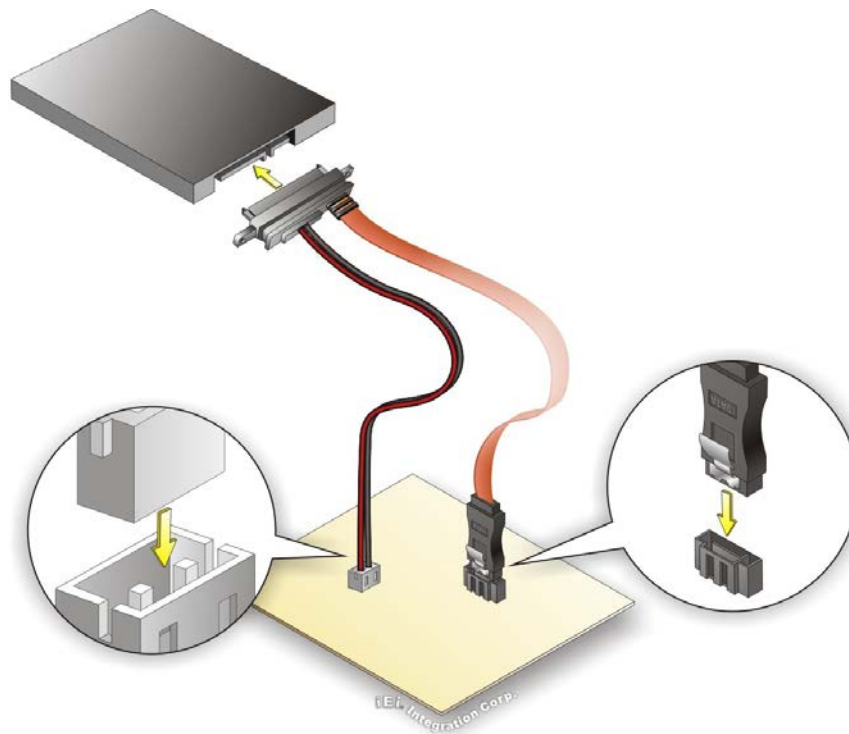

Figure 4-6: SATA Drive Cable Connection
Step 2: Insert the cable connector. Insert the cable connector into the on-board SATA drive connector and the SATA power connector. See **Figure 4-6**.
- Step 3:** **Connect the cable to the SATA disk.** Connect the connector on the other end of the cable to the connector at the back of the SATA drive. See **Figure 4-6**.